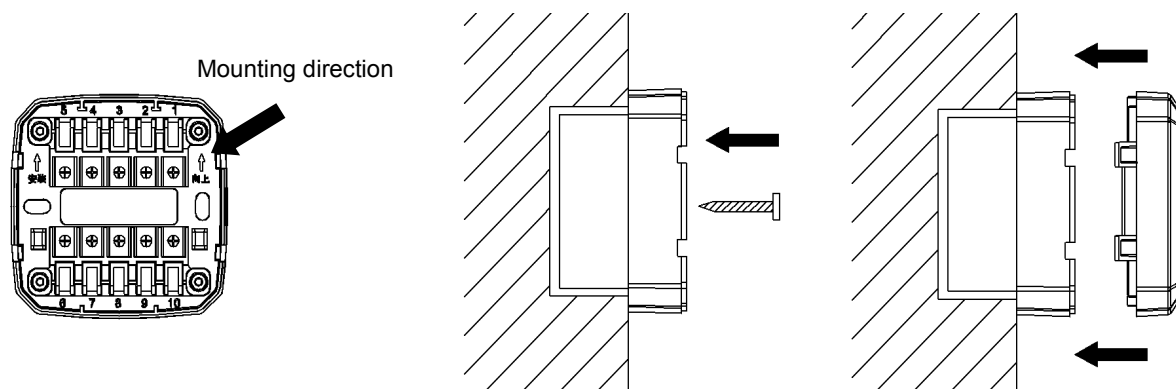

Fig.2
- 4.Monitor interface Mounting showing in Fig.2